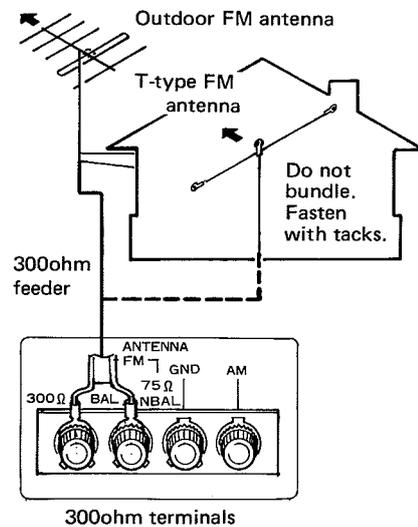

Fig. 7
**300ohm feeder:** This is suitable in locations where external noise is not a problem and if the distance between the antenna and the CX-7000 is short. Connect to the 300ohm BAL terminals as shown in Fig. 7.
The accessory T type FM antenna can be employed in locations where FM signals are strong, such as those near transmitting stations or within wooden structures. As shown in Fig. 7, connect the T type FM antenna to the 300ohm BAL terminals. While listening to FM stations, open the antenna to a T shape, rotate it 180° to determine where the best reception is obtained, then attach it to a wall or ceiling.